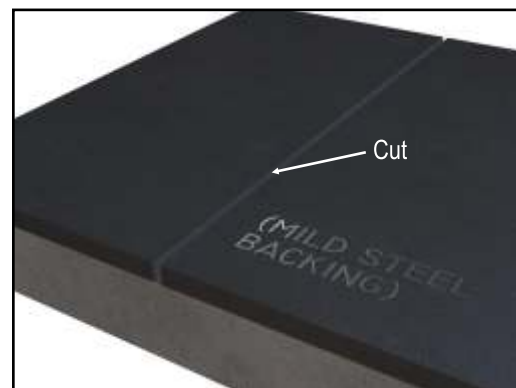

Fig. 2
2. Cut the backing plate as shown in Figure 2.